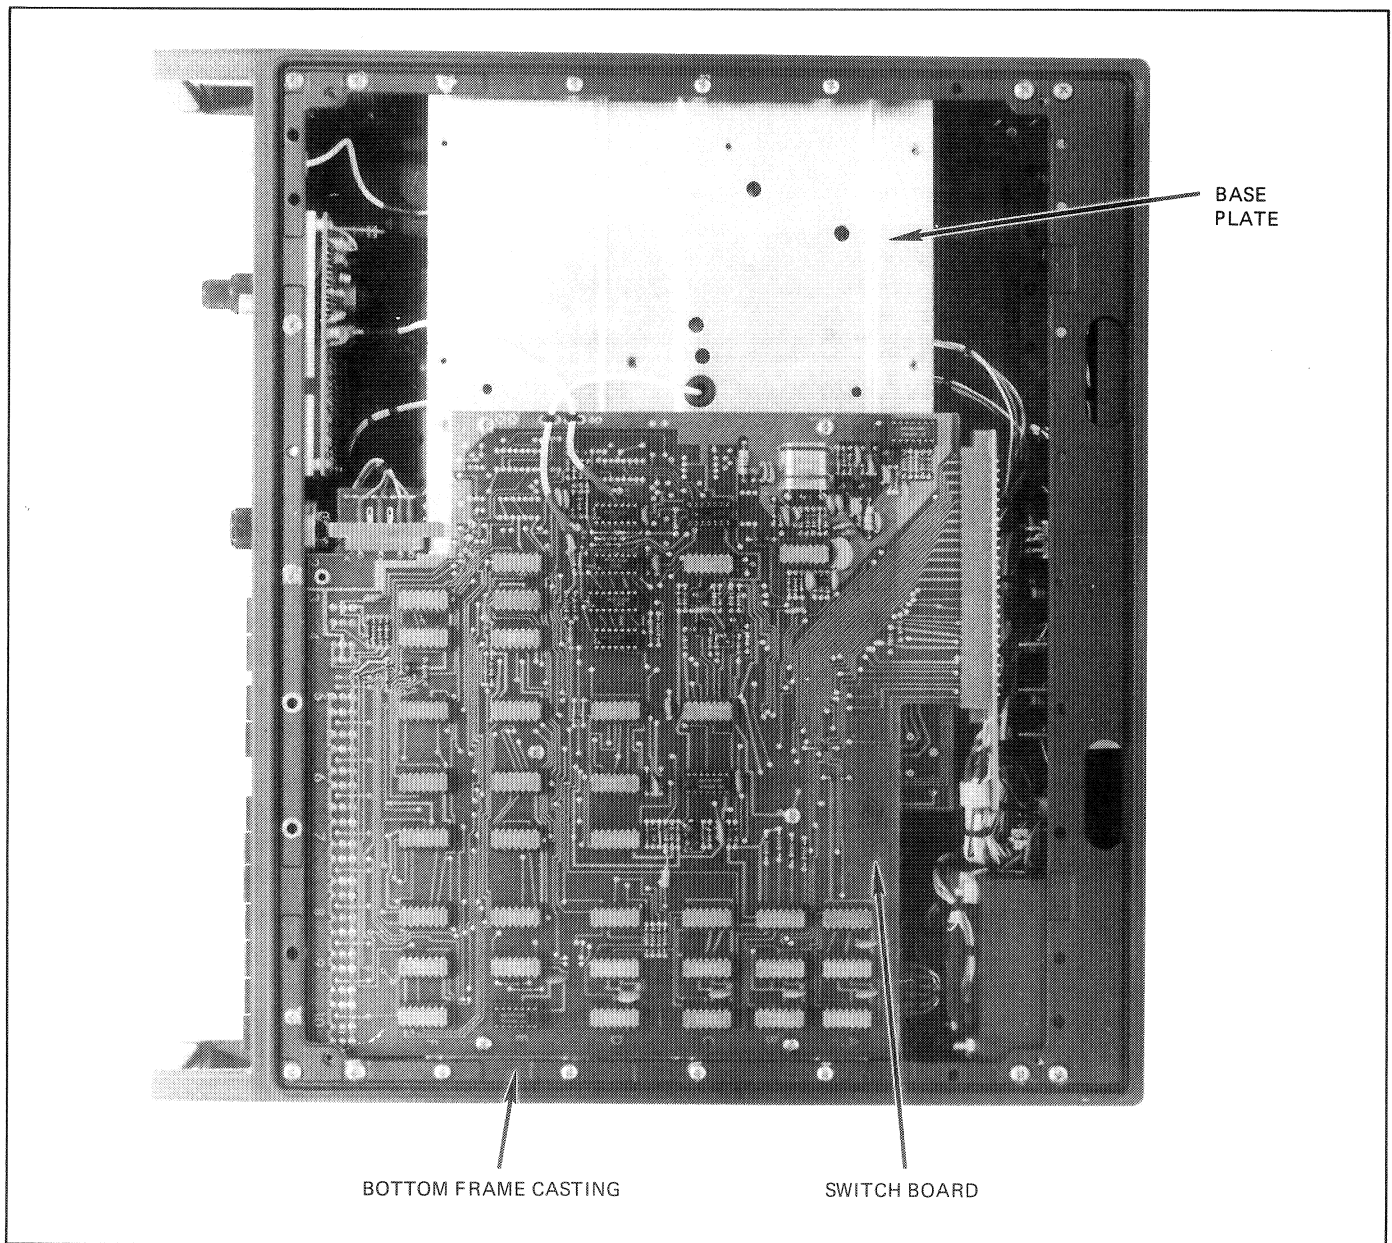

Figure 1.5 - Bottom View
1.52 The bottom view of the counter is shown in figure 1.5. The Switch board is mounted on the base plate. The base plate is attached to the bottom frame casting.